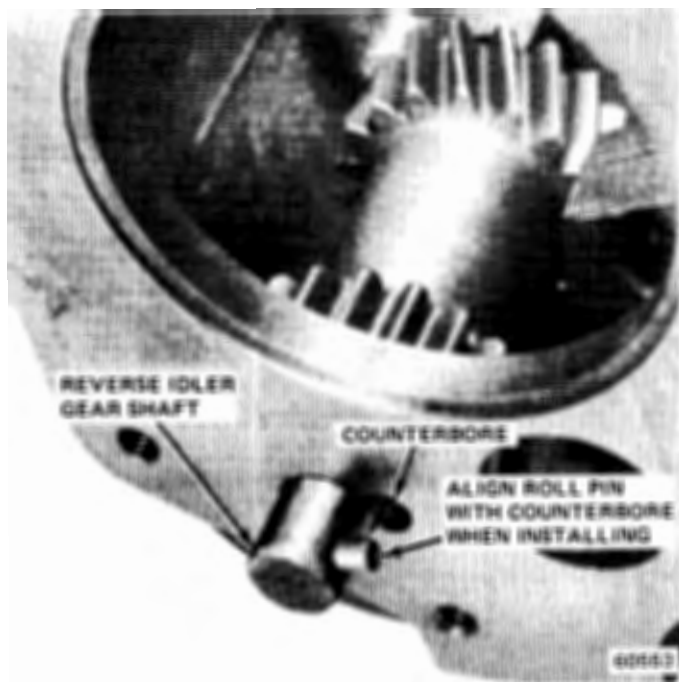

Fig. 6-8 Removing-Installing Reverse Idler Gear Shaft
(10) Remove main shaft assembly. Tilt spline end of main shaft downward and lift forward end of shaft upward and out of case.
(11) Remove countershaft gear and arbor tool as assembly. Remove countershaft gear thrust washers, countershaft roll pin, and any main shaft pilot roller bearings which may have fallen into case during clutch shaft removal.
(12) Remove reverse idle gear shaft. Insert brass drift through clutch shaft bore in front of case and tap shaft until end of shaft with roll pin clears counterbore in rear of case (fig. 6-8), then remove shaft.
(13) Remove reverse idler gear and thrust washers from case.
(3) Install reverse idler gear. Align gear bore, thrust washers, case bores, and install reverse idler gear shaft from rear of case. Be sure to align and seat roll pin in shaft into counterbore in rear of case (fig. 6-8).
(4) Measure reverse idler gear end play by inserting feeler gauge between thrust washer and gear. End play should be 0.004 to 0.018 inch. If end play exceeds 0.018 inch, remove idler gear and replace thrust washers.